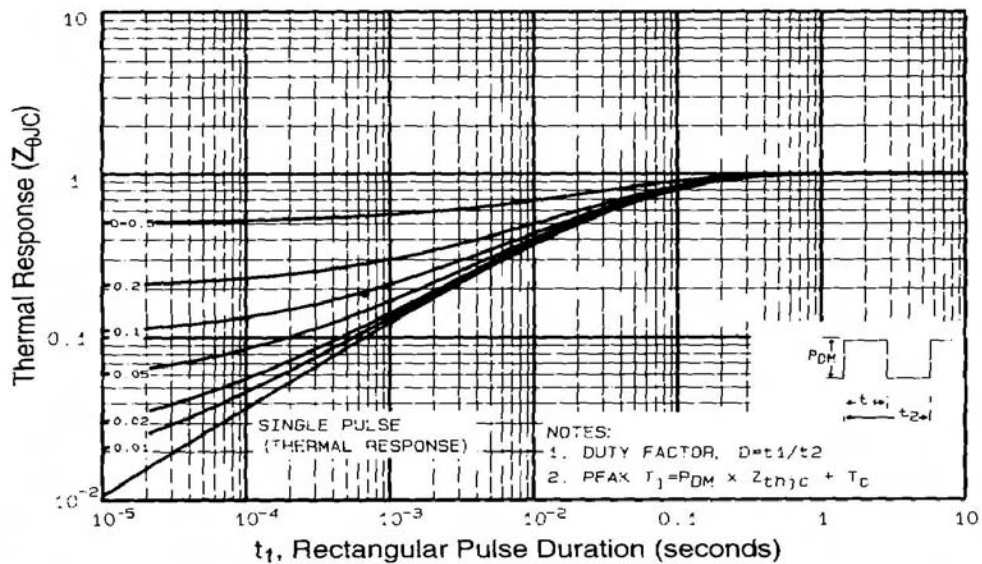

Fig 11. Maximum Effective Transient Thermal Impedance, Junction-to-Case
① Repetitive rating; pulse width limited by max. junction temperature (See Figure 11)
② $V_{DD}=50V$, starting $T_J=25^\circ\text{C}$, $L=3.0mH$